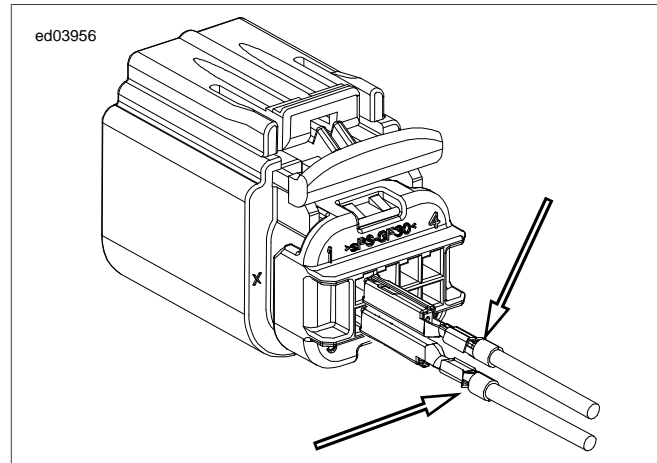

Figure B-34. Socket Terminal Orientation: Crimp Open Side
1. See Figure B-34. Align the open side of the crimp to the tang side of the connector cavity.